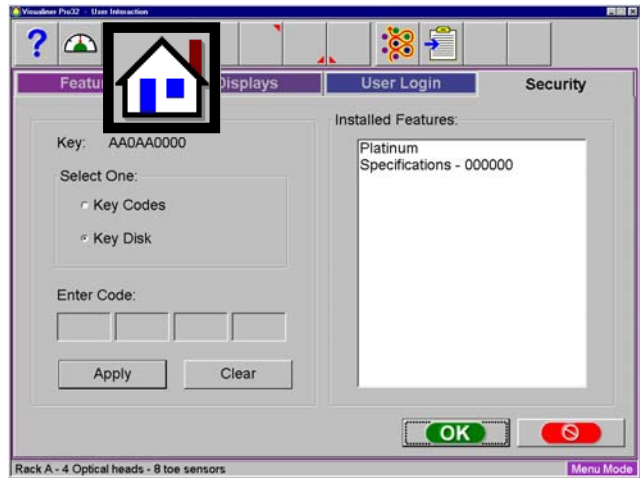

Figure 3-16
- Jump back to the Main Alignment menu by clicking on the “HOME” key in the upper left hand corner. (Figure 3-16)